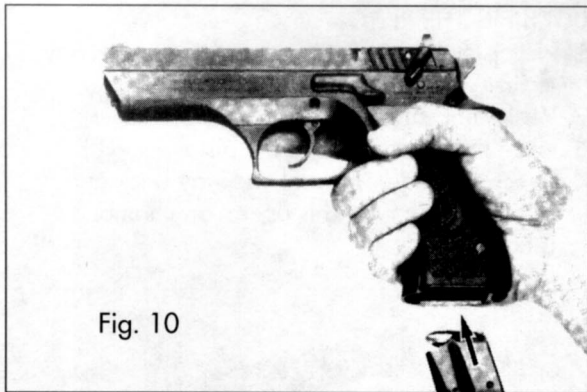

Fig. 10
3. Insert the magazine into the pistol (Fig 10).